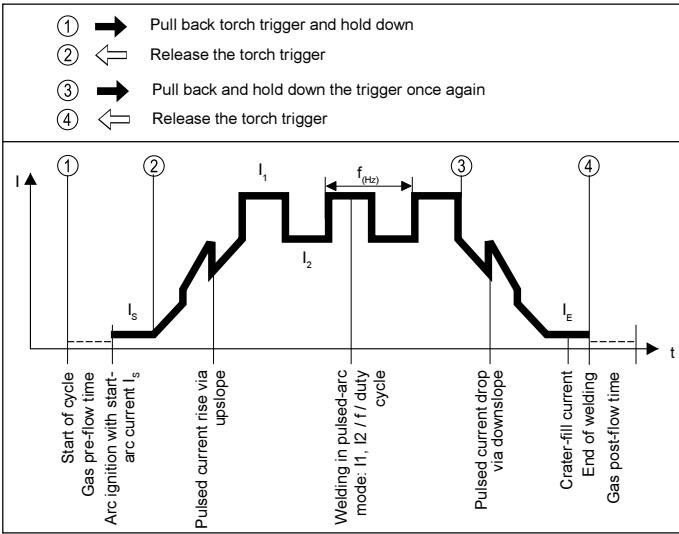

Fig. 16 Functional sequence in pulsed-arc welding operation using TR 50mc (4-step)
- The down-slope parameter is set directly on the power source. In the 4-step operating mode, the pulse phase begins as soon as the operator releases the torch trigger in the up-slope. As can be seen in Fig. 16, pulsing also takes place in the down-slope.